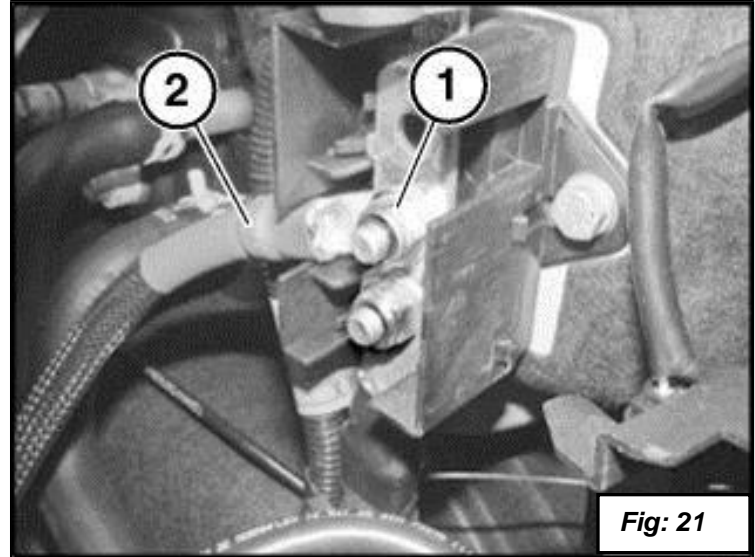

Fig: 21
31. Remove the cover that is over the power wire (2) on the fire wall. Remove the nut (1) holding the power wire to the terminal and connect the DINANTronics power wire there. See figure 21. If your harness has a ground wire connected to the ground stud shown in figure 19. Secure the wire with zip ties.